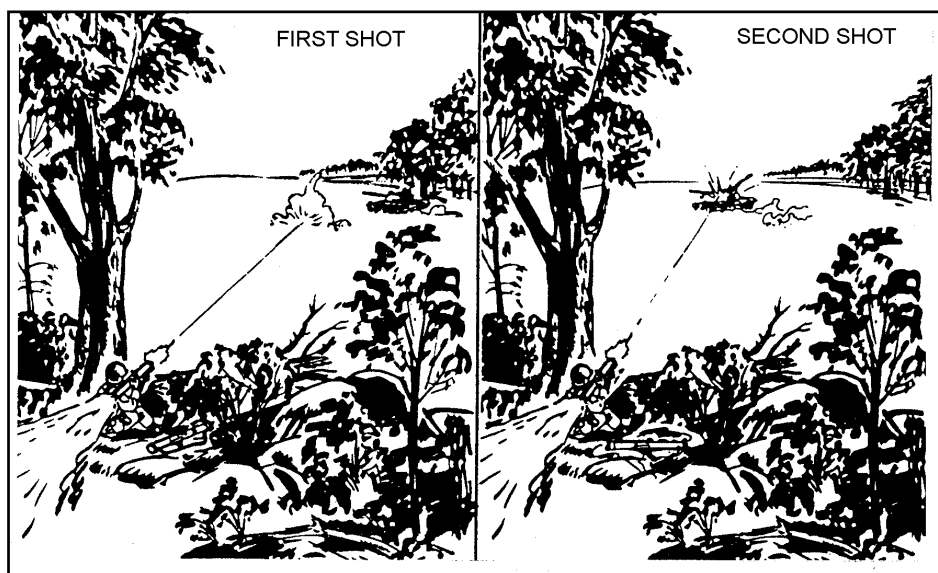

Figure 6-5. Sequence firing.
b. **Sequence Firing.** A single firer, equipped with two or more light antiarmor weapons prepared for firing, engages the target. After engaging with the first round and observing the impact, the firer adjusts his point of aim, engages with another round, and so on until he destroys the target or runs out of rounds (Figure 6-5).